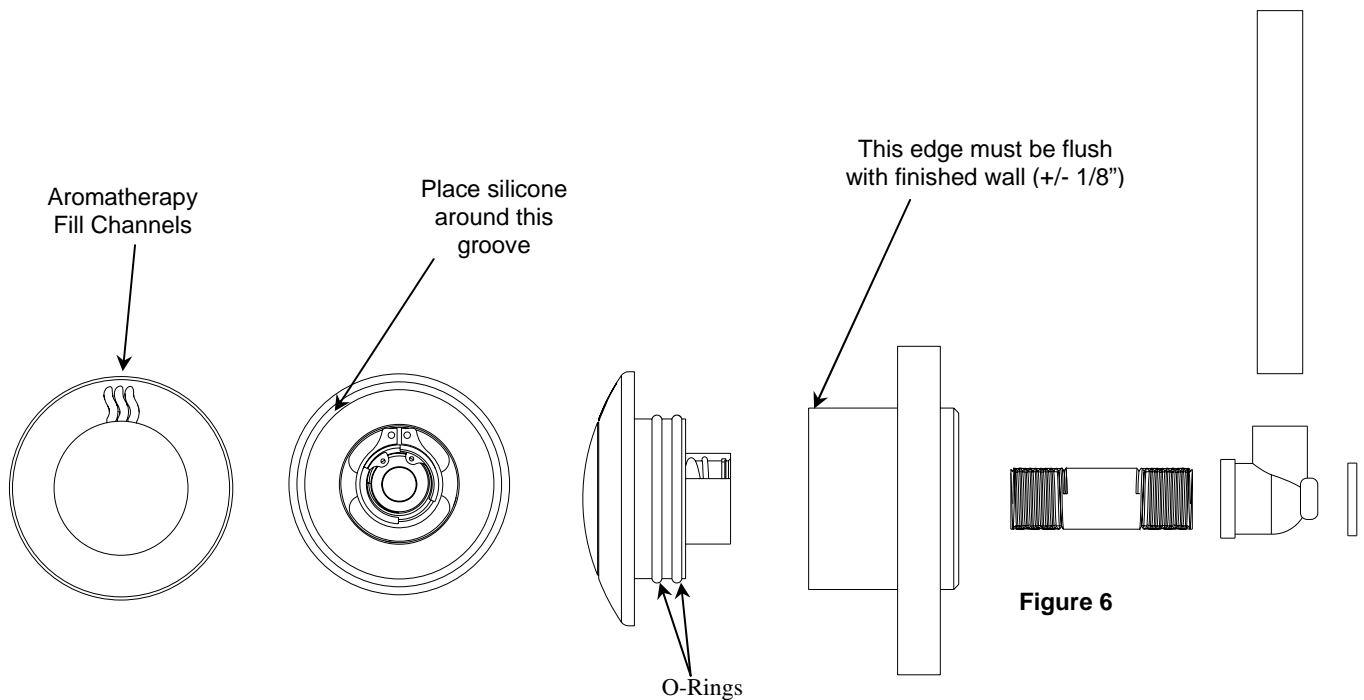

Figure 6
3. Final Installation (steam head): When installing the steam head in to the housing be sure that the aromatherapy fill channels are facing upwards see figure 6. To ensure that no moisture gets behind the steam head and into the wall, place a generous bead of waterproof silicone around the steam head and into the wall, use the machined groove as a guide. Be sure that within the housing there isn't any debris, and the two O-rings are in place on the steam head. Slide the steam head into the housing until the steam head is tight against the finished wall. You may need to wipe away any excess silicone. Use figure 6 as a reference to these steps.